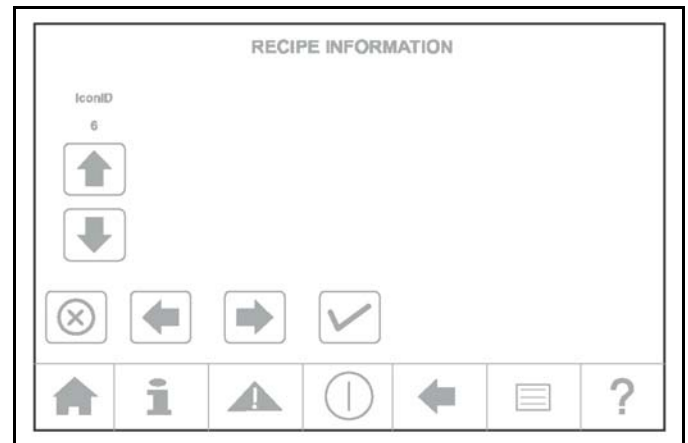

Figure-71
- **Icon ID**—The number of the icon in the list in the controller. It is used to link the icon to the recipe. See Figure-71.